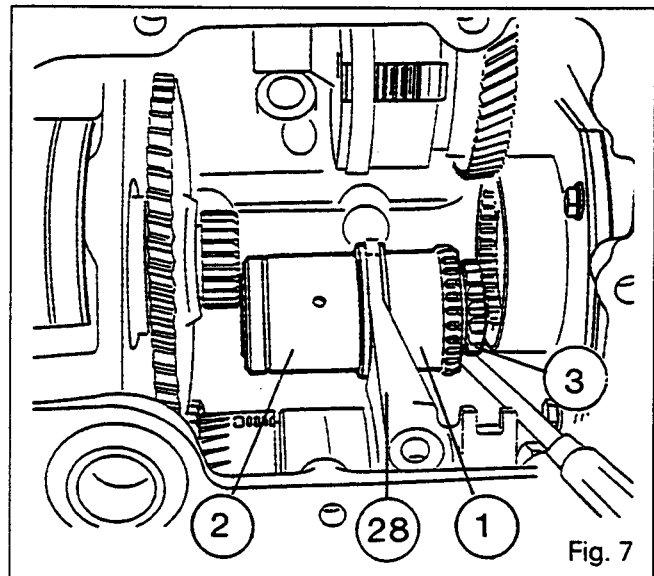

Fig. 7
14. Slide the sleeve (2) and the coupler (1) towards each other on the connecting shaft (3) (Fig. 7).
15. Move the assembly comprising the sleeve, connecting shaft and coupler to the outer left-hand edge and then withdraw it from the fork (28) (Fig. 7).
- Note: Mark the direction of fitting for the sleeve (2) (Fig. 7).**